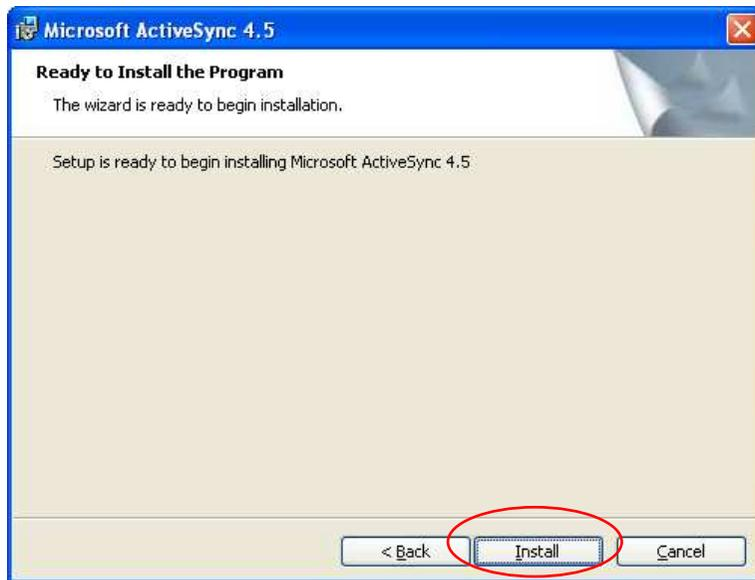

Figure 96:
10. Enter 'Install' when the next screen appears (Figure 96).